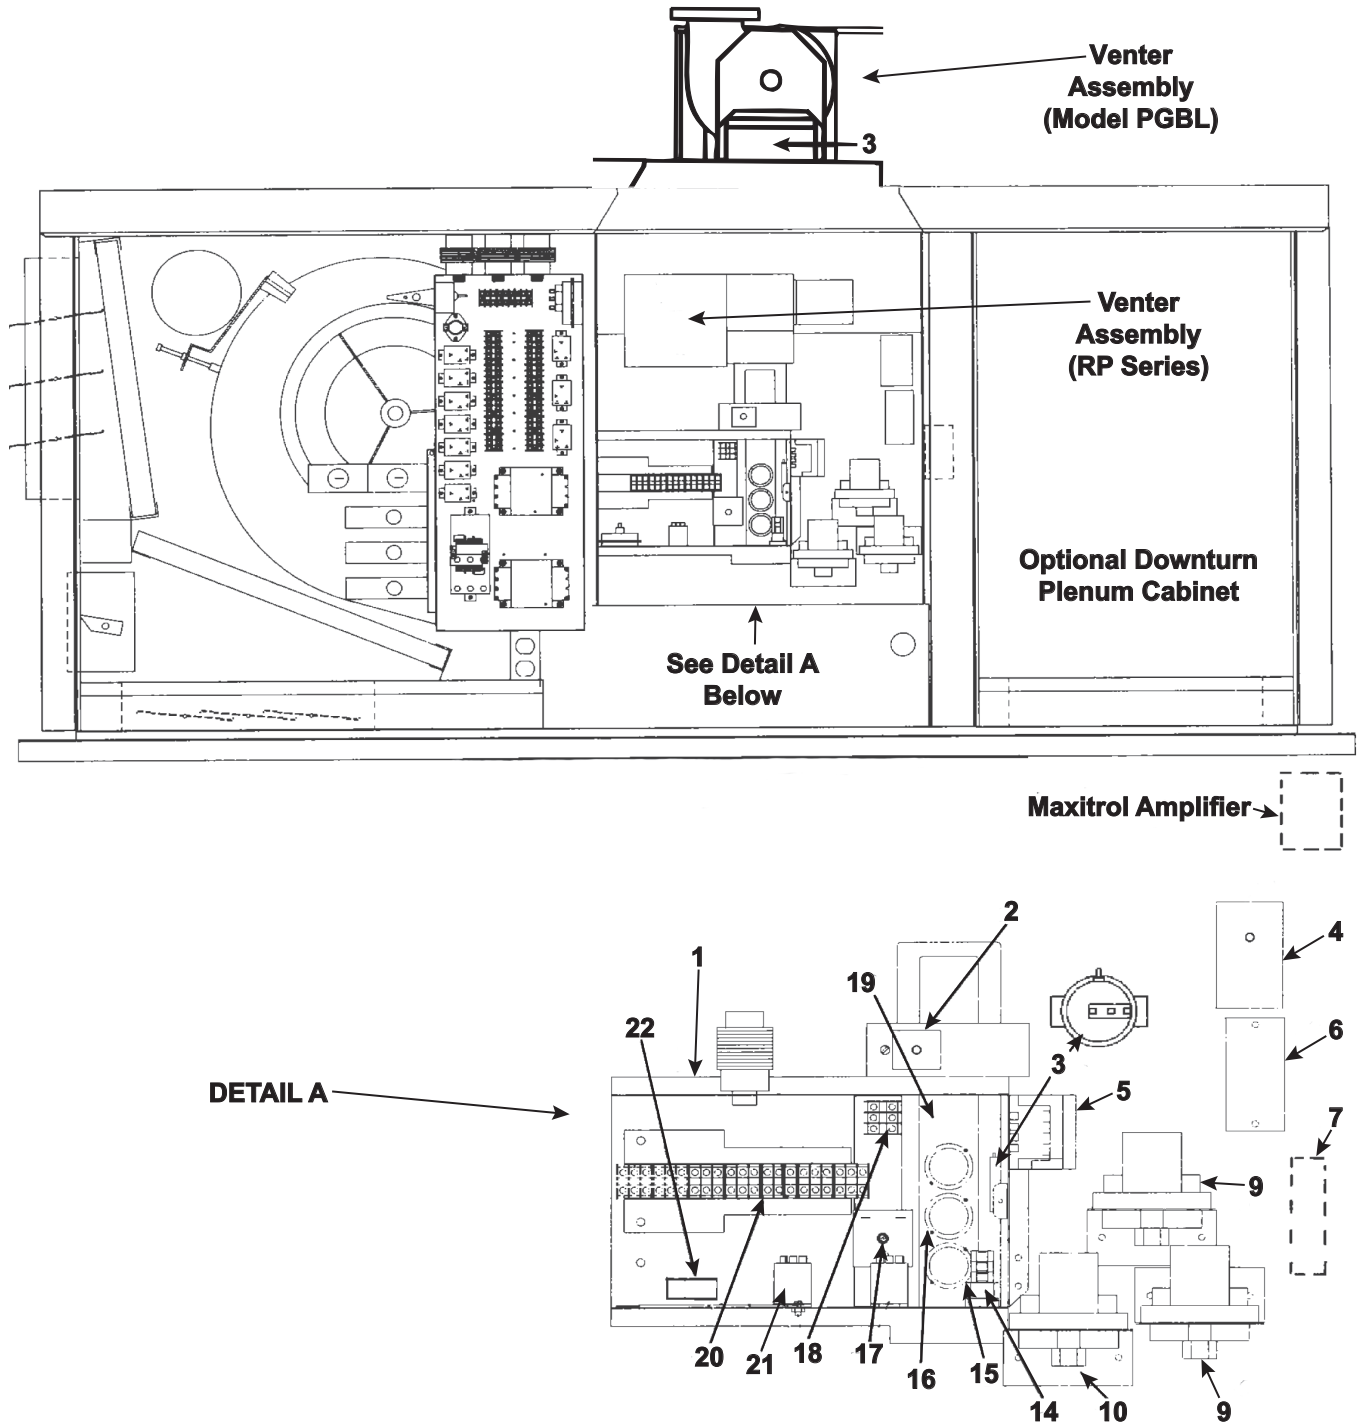

Figure 2. Typical Furnace Electrical Compartment (Refer to Table 8)
- Figure 2 shows the locations of furnace electrical components, which are listed in Table 8.
- The combustion air pressure switch (item 3, Figure 2) on RP series units manufactured *after* JAN 1999, is mounted inside the electrical box. On RP series units manufactured *before* FEB 1999, the pressure switch is mounted on the wall of the electrical compartment above the electrical box.
- The venter assembly and the combustion air pressure switch (item 3, Figure 2) on indoor model PGBL is mounted on top of the unit.